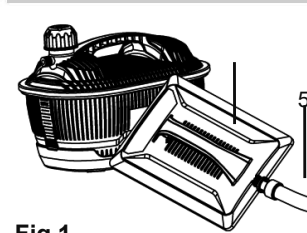

Fig.1
1. Attaching the steam plate hose (Fig 1)